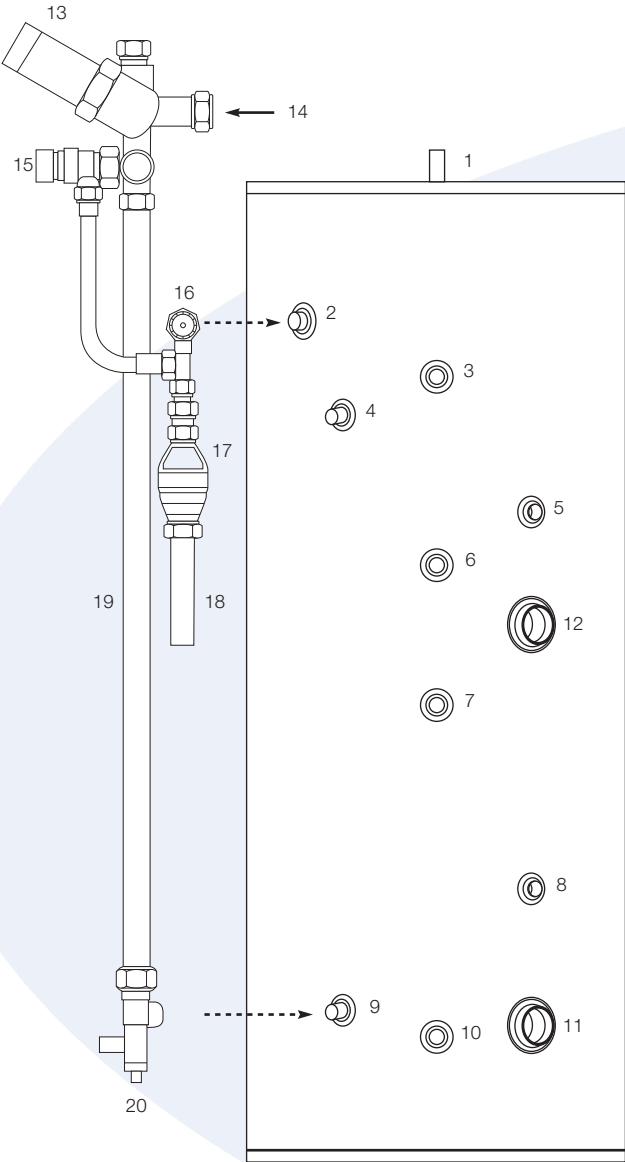

Figure 2-3: Cylinder connections and controls
All Pipework connections to the cylinder **must** be made in accordance with Figure 2-3.
2. Locate the dual thermostat in the stainless steel pocket (refer to Figure 2-3 for location) and secure using the retaining screws on the thermostat housing.